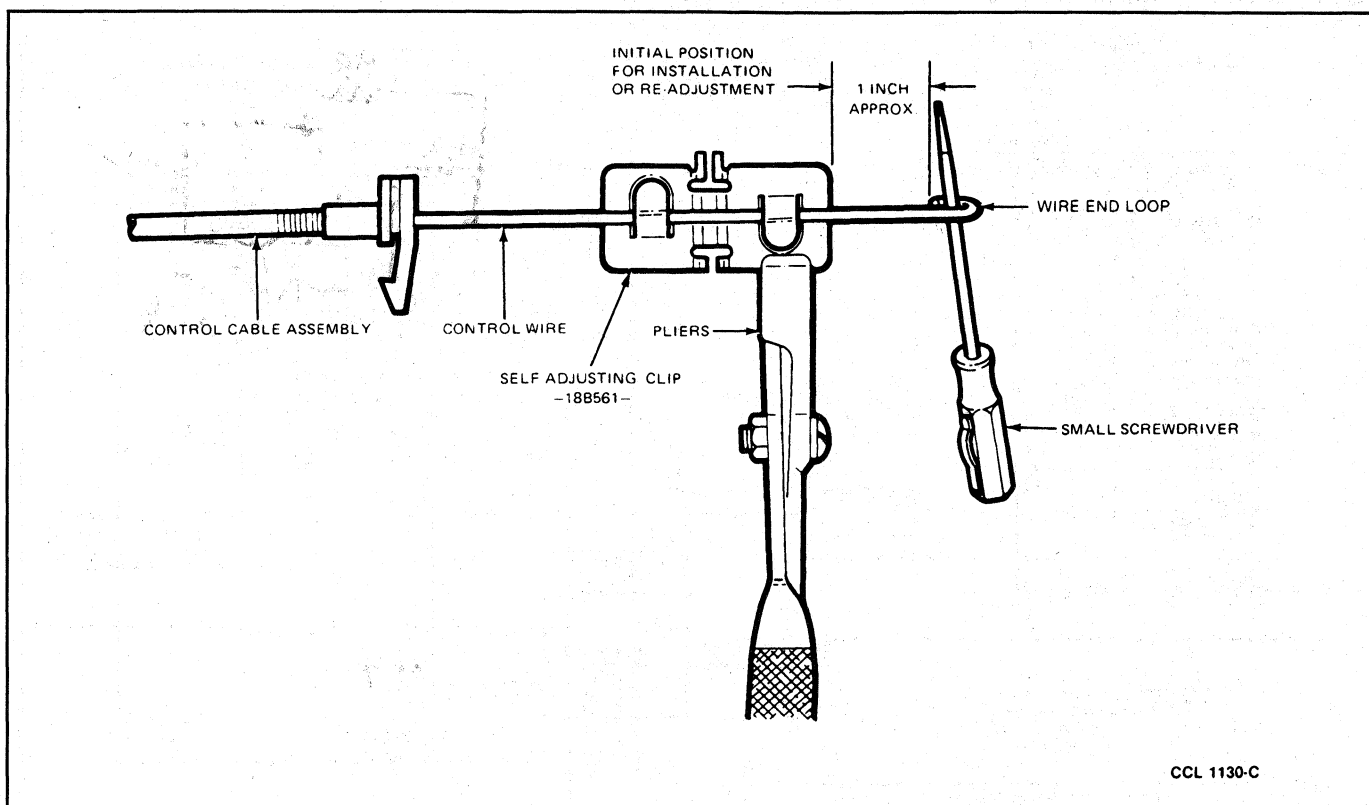

FIG. 6 Control Cable Preset Adjustment
The temperature control cable is self-adjusting with the movement of the temperature control knob to the extreme right (to the end of the WARM band marked on the face of the control assembly). To prevent damage of the control cable wire, a preset adjustment (Fig. 6) must be made before attempting to perform the self-adjust procedure. Refer to Adjustments.
1. Insert blade of a small pocket screwdriver into wire end loop (crank arm end) of control cable (Fig. 6).
2. Hold crank arm firmly in position, insert blade of a small pocket screwdriver into wire loops (Fig. 6), and pull cable wire through self-adjusting clip until there is a space of approximately 25.4mm (1-inch) between clip and wire end loop.